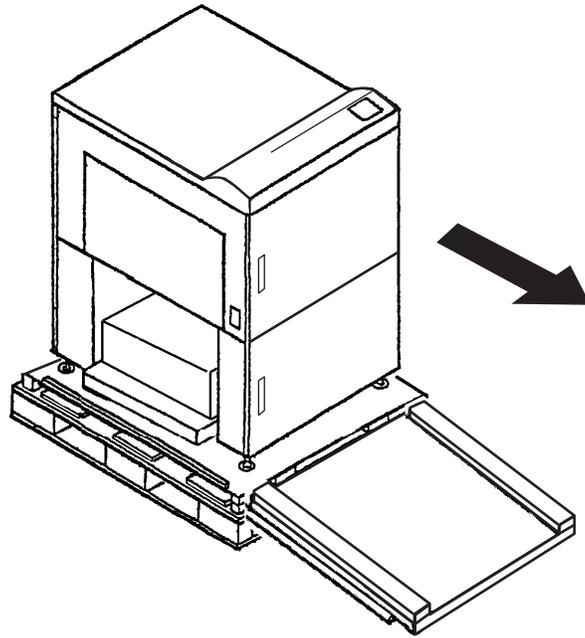

Figure 2-5
- Utilizing four or more people, carefully move the printer down the ramp to the floor as shown in Figure 2-5.